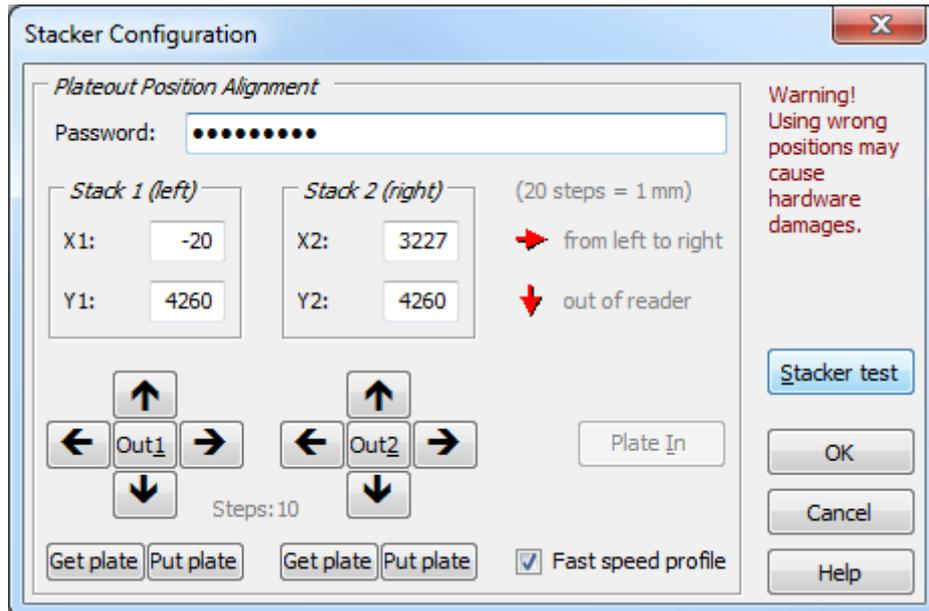

Figure 12: Reader software 'Stacker Configuration'
5. The aim is that the microplate should hit the left and right magnetic clamps the same way. If not, then change the 'X1' position value using the arrow buttons in the stacker configuration window (see Figure 12). Repeat from step 1 until you get the desired result.